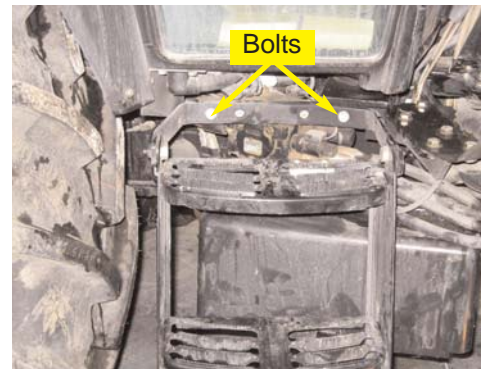

Figure 2a. Mounting location.
- a. Locate the two bolts on the right side of the tractor that attach the entrance step to the machine. (Figure 2a.)